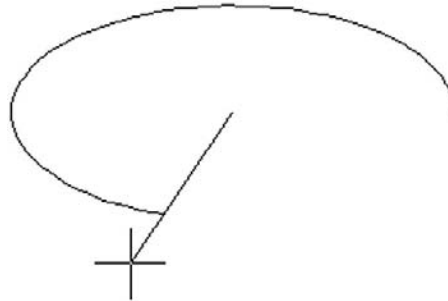

FIGURE 2.21
Step 4. Click anywhere again to complete the ellipse. You can also specify a rotation angle along the major axis (the line between clicks 1 and 2). This would be as if the ellipse were rotating away (or toward) you. For a variation on this, try the Arc submenu of the ellipse, which is essentially similar in execution until the final step, when you trace how much of the ellipse you want to see, as shown in Figure 2.21.